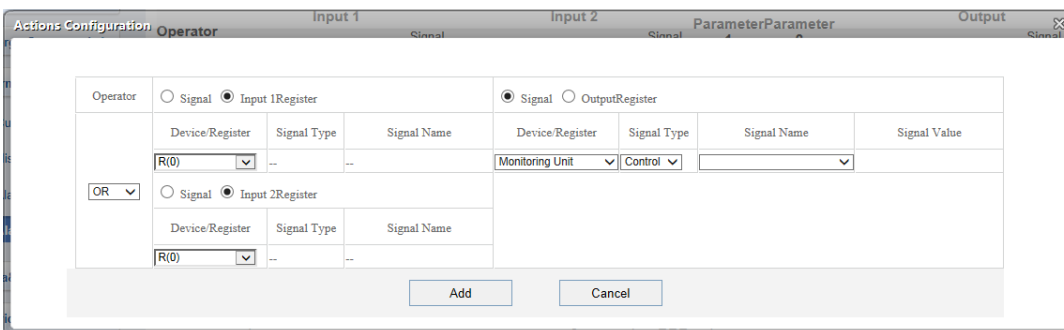

Figure 3-42 Alarm linkage configuration 3
Thirdly, when **Register** is chosen for the parameters, users need to type the register name in the textbox of the register, for instance, R(0), R(1) and so on, as shown in Figure 3-42.